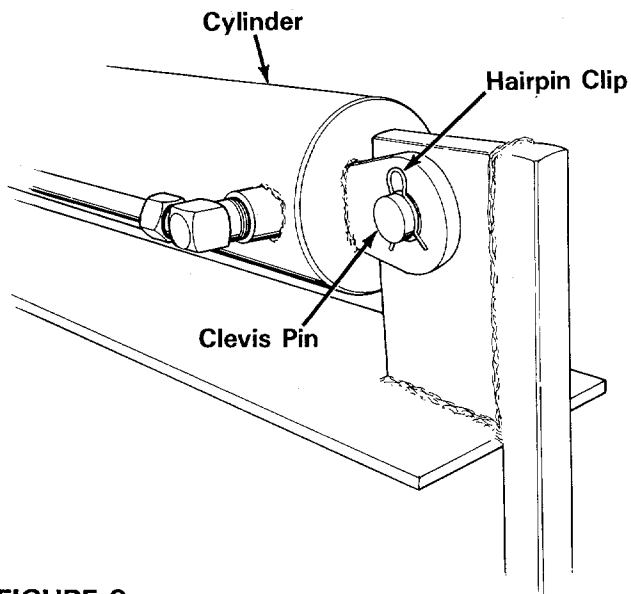

FIGURE 9
2. Remove one hairpin clip from the clevis pin on the end of the cylinder. Place the cylinder in position on the log splitter, and secure with clevis pin and hairpin clip just removed. See figure 9.